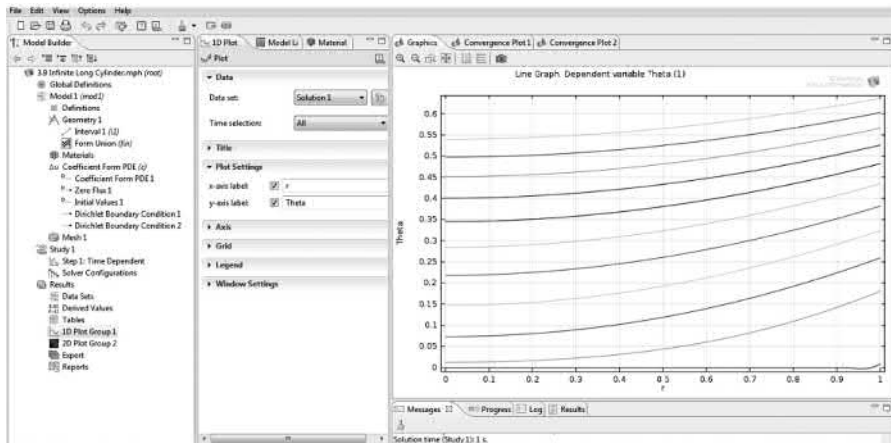

FIGURE 3.23 Temperature profile for infinitely long cylinder [solution to Equation (3.38)].
- Now, go to *Study* option in the model pellet tab. Click on the *Compute (=)* button. A graph will appear giving the profile of *Theta* versus *r* as shown in Figure 3.23.